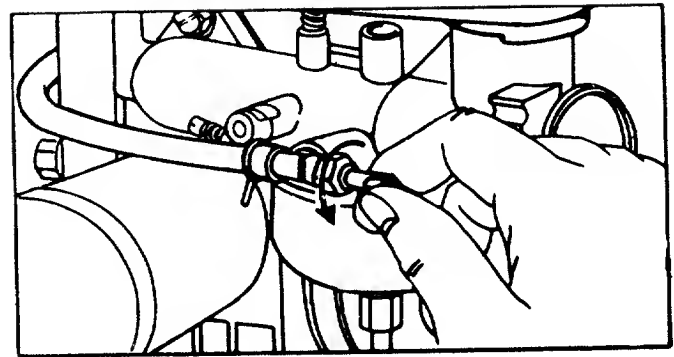

FIGURE 21. FUEL SHUT-OFF VALVE
1. Be sure the fuel shut-off valve is open (must be turned counterclockwise). See figure 21.